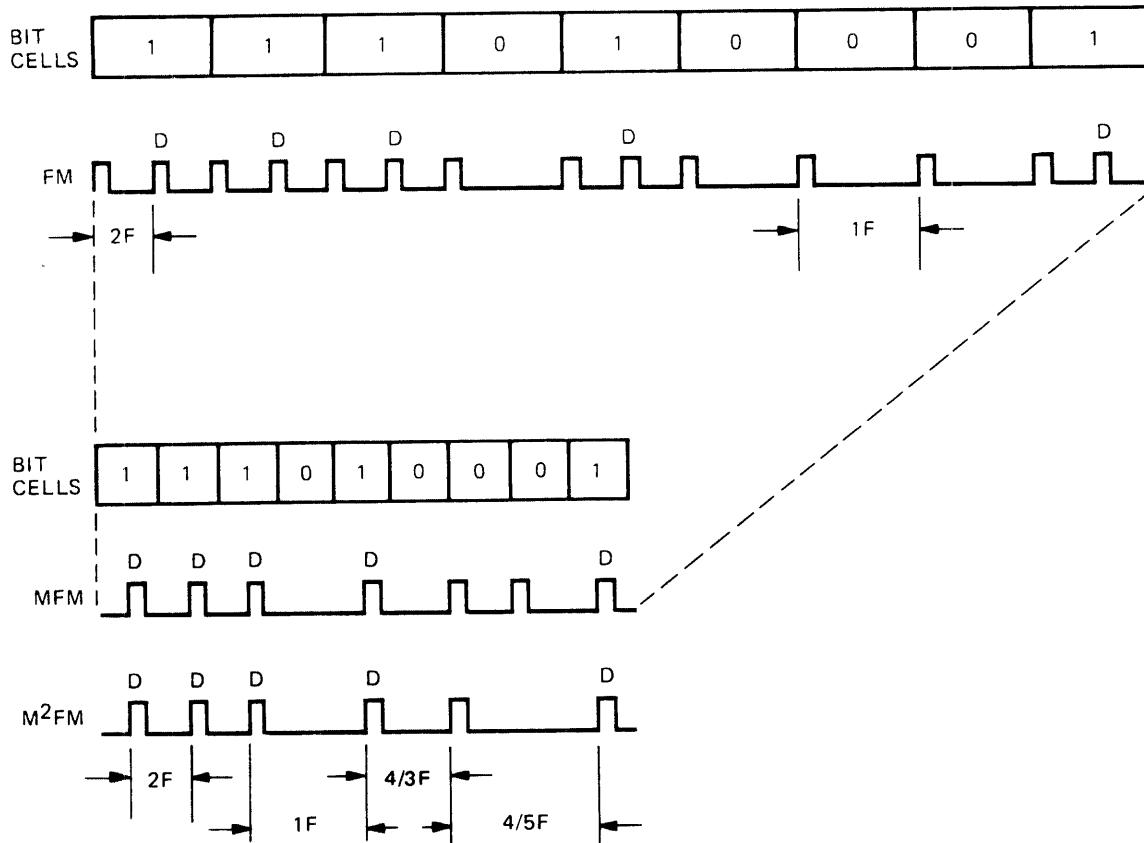

FIGURE 5. FM, MFM AND M²FM CODE COMPARISONS
FM encoding rules specify a clock bit at the start of every bit cell. See Figure 5. MFM and M²FM encoding rules allow clock bits to be omitted from some bit cells, with the following prerequisites:
- a. MFM – The clock bit is omitted from the current bit cell if either the preceding bit cell or the current bit cell contains a data bit. See Figure 5.
- b. M²FM – The clock bit is omitted from the current bit cell if the preceding bit cell contained any bit (clock or data) or if the current bit cell contains a data bit. See Figure 5.